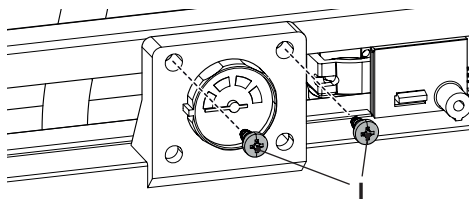

Fig. 10.6
- Remove screws "I" (Fig. 10.6) and turn the controls panel "J", as shown in figure Fig. 10.7, to access in an optimal manner the components inside the boiler.